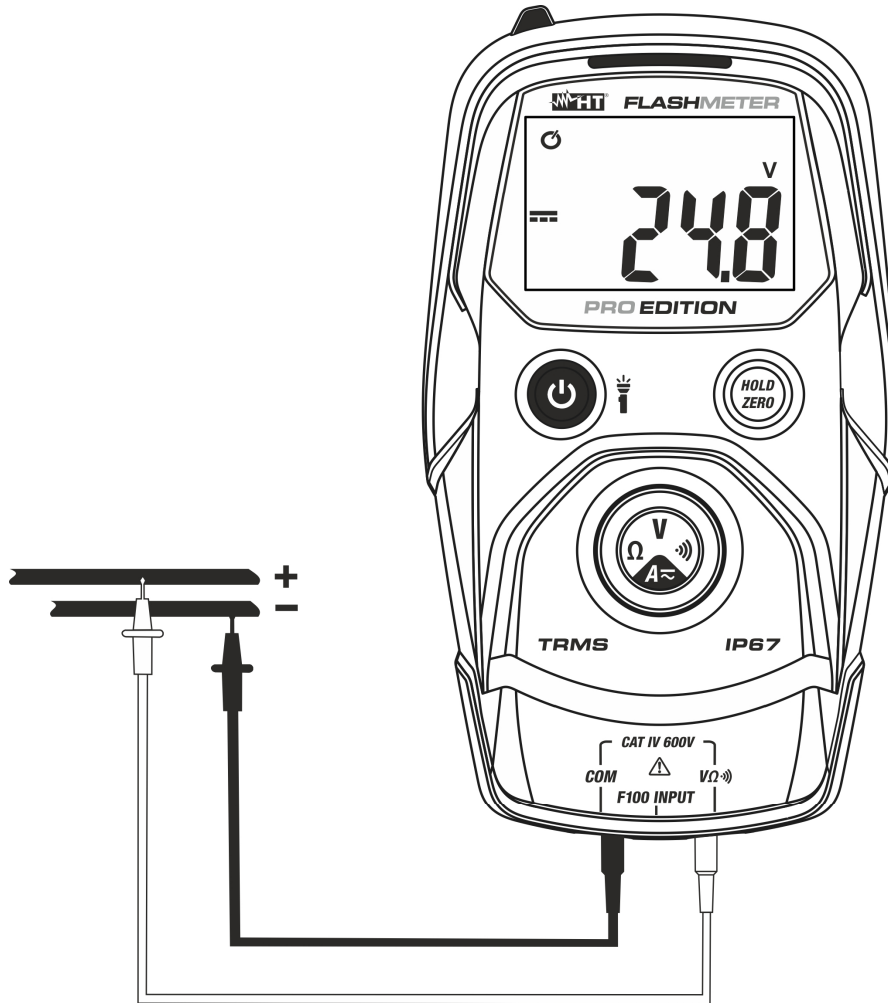

Fig. 3: Use of the instrument for DC Voltage measurement
3. Position the red lead and the black lead respectively in the spots with positive and negative potential of the circuit to be measured (see Fig. 3). The instrument automatically switches to DC voltage measurement for **value > ca. 1.0V**. The display shows the value of voltage.
5. When symbol "-" appears on the instrument's display, it means that voltage has the opposite direction with respect to the connection in Fig. 3